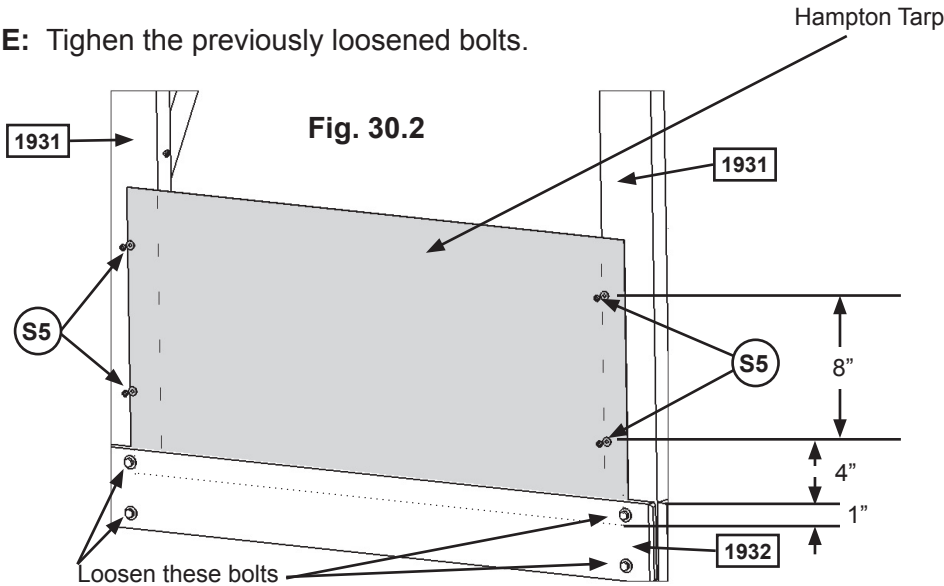

Fig. 30.3
- D:** From the inside the assembly and 1/2" in from the edge of the tarp, attach to (1932) Side Ground with 4 evenly spaced (S5) #8 x 1/2" Pan Screws (with #8 flat washer). (fig. 30.3)